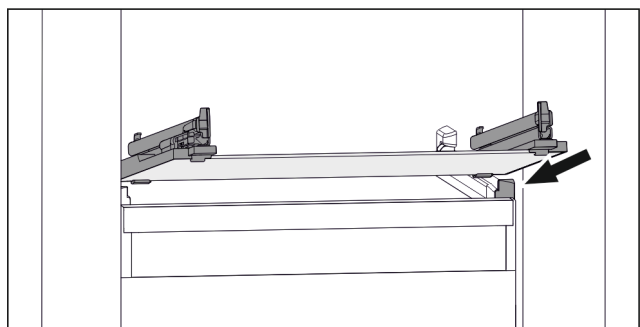

Fig. 72 Example illustration of glass shelf
- ▶ Position glass shelf at an angle behind the stoppers. (see Fig. 72)